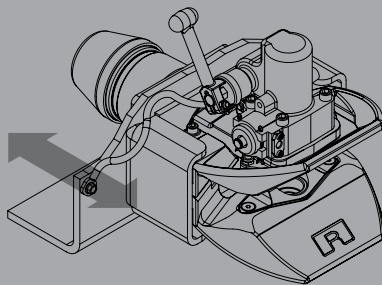

Fig. 7
- Move coupling head (not funnel) vigorously in direction of travel when unhitched (see Fig. 7):